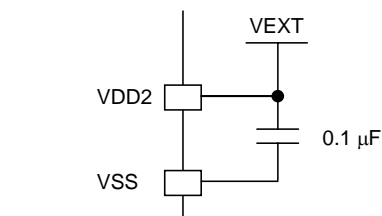

Fig. 2
- When the external supply voltage  $V_{EXT} = 1.8\text{ V}$  to  $3.6\text{ V}$ , connect VDD2 to  $V_{EXT}$  directly as shown in Fig. 2.